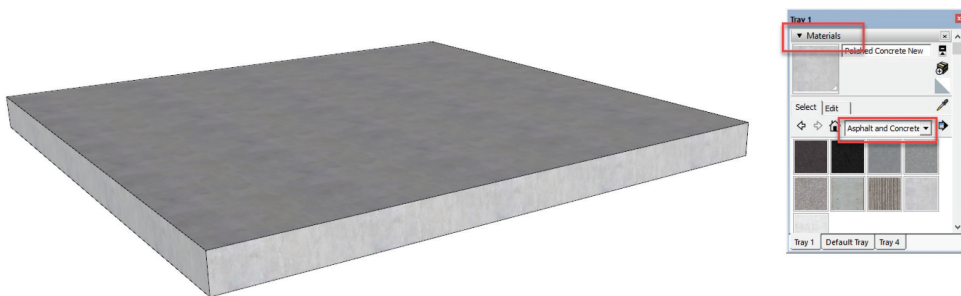

Figure 10.15 Textured Slab.
27. Finally, you can make it look like concrete by applying a texture or material. In the Materials Dialog Box, you can choose from either the materials provided with SketchUp OR you can import your own textures to use. I will be discussing custom materials later in this book. For now, go to Asphalt and Concrete collections using the down arrow in Materials. Choose a texture that you prefer that looks like concrete. Select this material and notice your mouse has the paint bucket icon, click on the slab and you're done! (See Figure 10.15.)